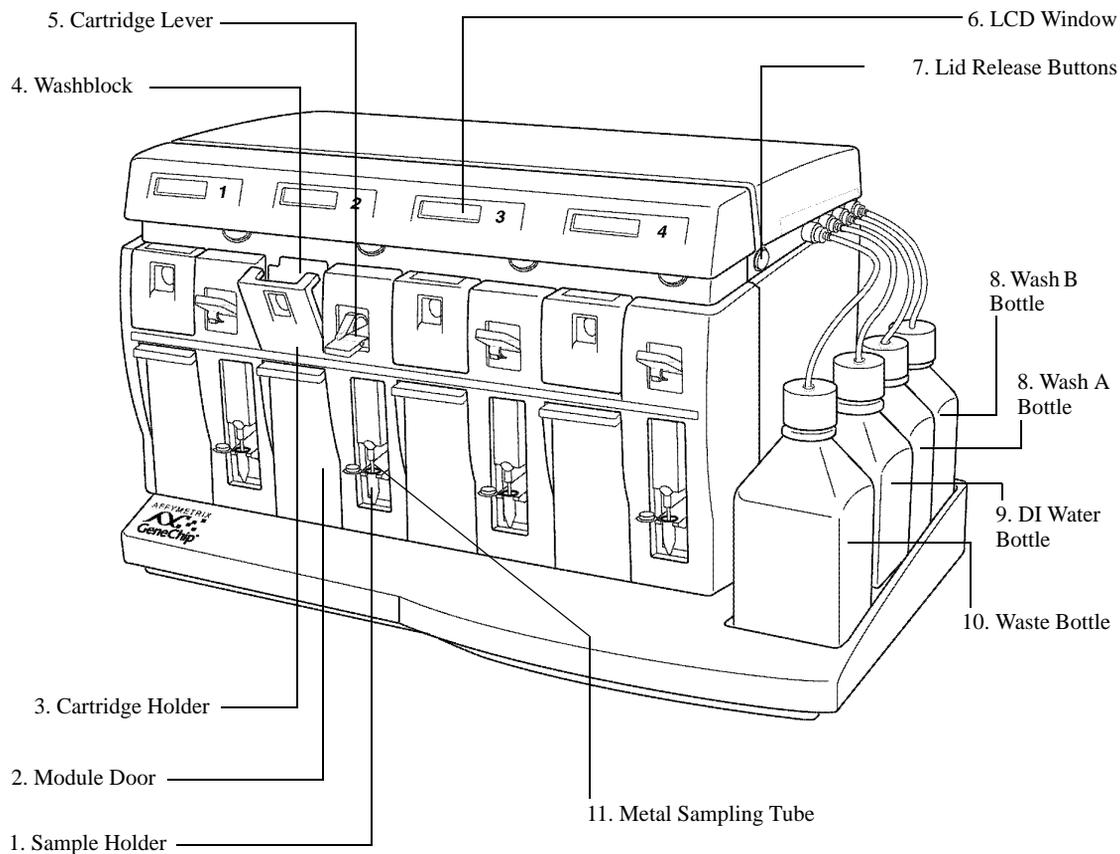

Figure 1.1
*Do not place hands or fingers inside the cartridge holder. See **Figure 1.1 on page 10**. Under fault conditions, the area behind the cartridge holder can have temperatures that rise to 100°C or higher.*
The GeneChip Fluidics Station 400 includes the following components. See **Figure 1.1 on page 10**.